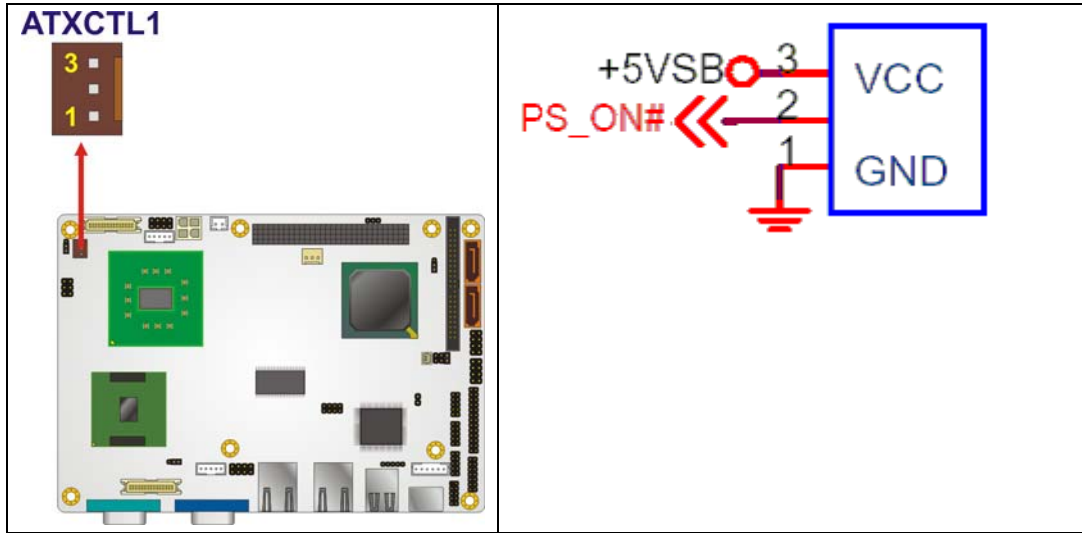

Figure 4-5: ATX Power Supply Enable Connector Location
- CN Location:** See **Figure 4-5**